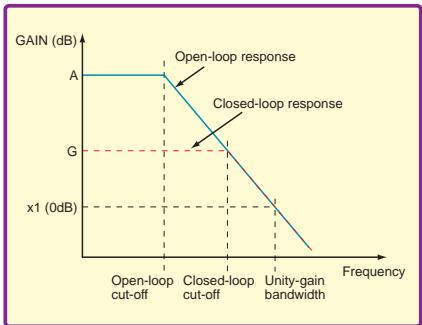

Fig.6. Typical form of the open- and closed-loop frequency responses of an op amp amplifier.
Fig.6 shows the frequency response of a typical op amp's open-loop gain and the closed-loop gain of an amplifier (eg, inverting and non-inverting amplifiers) built using the op amp. In
The closed-loop gain (G) of an op amp amplifier is set by the feedback resistors, as mentioned above, and is usually much lower than the open-loop gain. As frequency increases, the closed-loop gain remains constant at $1/\beta$ until the approximation $A = 1/\beta$ no longer holds due to the open-loop gain (A) at that frequency (and above) being too low. At these higher frequencies the closed-loop gain decreases along with the open-loop gain (see Fig.6). The cut-off frequency for the closed-loop response is typically at a much higher frequency than the cut-off frequency point of the open-loop gain.
intersects the open-loop response and starts decreasing. The straight-line nature of the open-loop response in Fig.6 means that if you multiply the closed-loop gain and closed-loop bandwidth together for any closed-loop gain you get the same value. This is called the 'gain-bandwidth product' (GBW) and is an indication of how 'high frequency' an op amp is. Fixed GBW is common for op amps, but not universal, as it depends on the form of compensation used.
Fig.6. Response curves of state-variable filter: a) (top) Low-pass, b) (middle) high-pass c) (bottom) band-pass showing different Q settings. Note the scale is 1dB per a division. The whole vertical scale is 25dB.